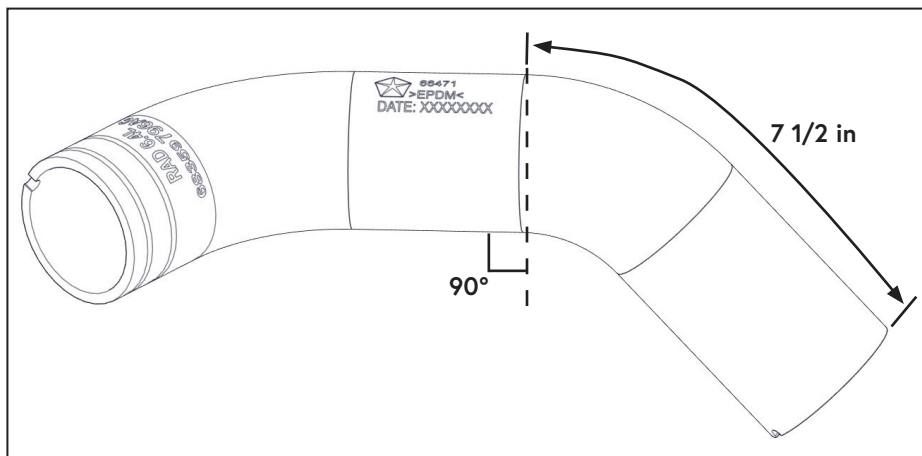

Figure 36 — Modify hose
- ☐ From the radiator side of the hose, measure 7 1/2 in towards the center of the hose and mark it with a grease pen (Figure 36).
- ☐ Cut the radiator hose in the marked location, ensuring that the cut is square to the hose section; discard the radiator side of the hose (Figure 36)